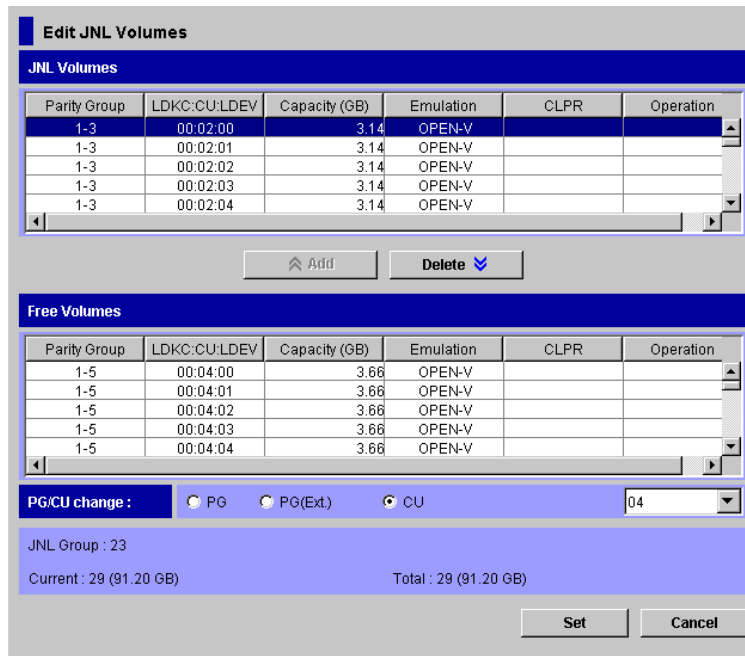

Figure 6-1 Edit JNL Volumes Dialog Box
5. In the **Free Volumes** list of the Edit JNL Volumes dialog box (Figure 6-1), select the volumes that you want to register.
5. In the **JNL Volumes** list of the Edit JNL Volumes dialog box (Figure 6-1), select the volumes that you want to delete.